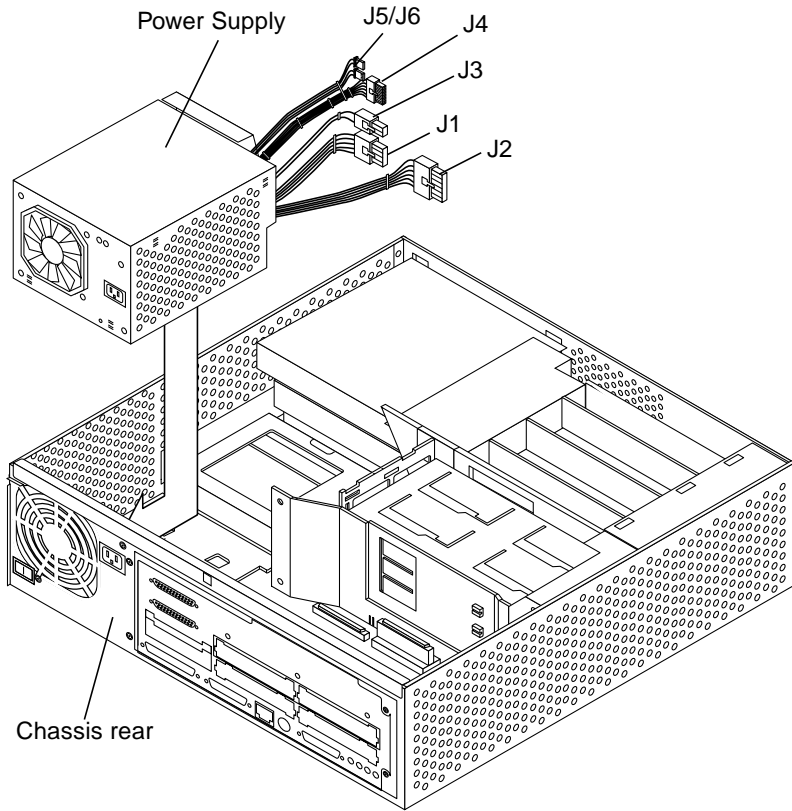

FIGURE 8-2 Replacing the Power Supply
4. **Connect the following power supply connectors to the motherboard (FIGURE 8-2:**